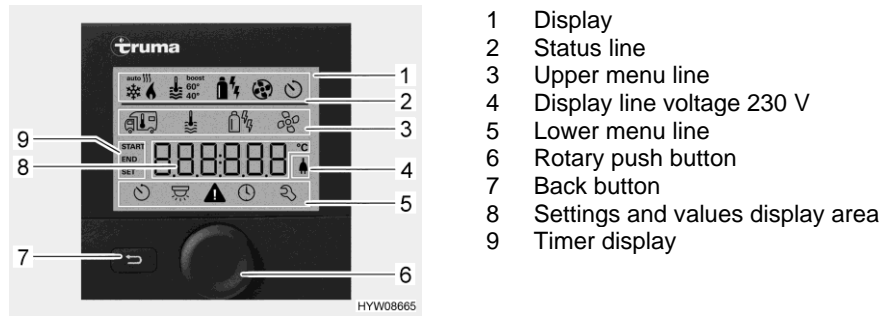
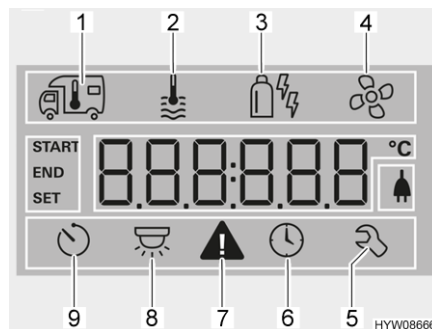

Fig. 169 Operating unit with displays
Fig. 170 Display (operating unit)
- Status line (Fig. 169,2)
- Upper menu line (Fig. 169,3)
- Display area (Fig. 169,8)
- Lower menu line (Fig. 169,5)
- Press and hold the rotary push button (Fig. 169,6) for approx. 3 seconds. Both menu lines (Fig. 169,3 and Fig. 169,5) are displayed. The first symbol flashes.
- Turn rotary push button (Fig. 169,6) until the required menu symbol flashes.
- Press rotary push button to save the value set. If you do not wish to change the value originally set: Press back button (Fig. 169,7).
- Turn rotary push button (Fig. 169,6) until the heater menu symbol (Fig. 170,1) flashes.
- Press rotary push button to save the value set. The symbol in the status line (Fig. 169,2) flashes until the room temperature set is reached. If you do not wish to change the value originally set: Press back button (Fig. 169,7).
- Turn rotary push button (Fig. 169,6) until the hot water menu symbol (Fig. 170,2) flashes.
- Press rotary push button to save the value set. The symbol in the status line (Fig. 169,2) flashes until the hot water temperature set is reached. If you do not wish to change the value originally set: Press back button (Fig. 169,7).
- Turn rotary push button (Fig. 169,6) until the menu symbol operating mode (Fig. 170,3) flashes.
- Press the rotary push button to save the set operating mode. To revert to the original setting: Press back button (Fig. 169,7).
- Turn rotary push button (Fig. 169,6) until the fan menu symbol (Fig. 170,4) flashes.
- Turn rotary push button (Fig. 169,6) until the timer menu symbol (Fig. 170,9) flashes.
- Press rotary push button. The timer is activated. The timer symbol (Fig. 170,9) flashes when the timer is programmed and active.
The warning symbol (Fig. 170,7) flashes in the event of a warning. The heater continues to operate. In the event of only a temporary fault, the warning symbol goes out automatically.